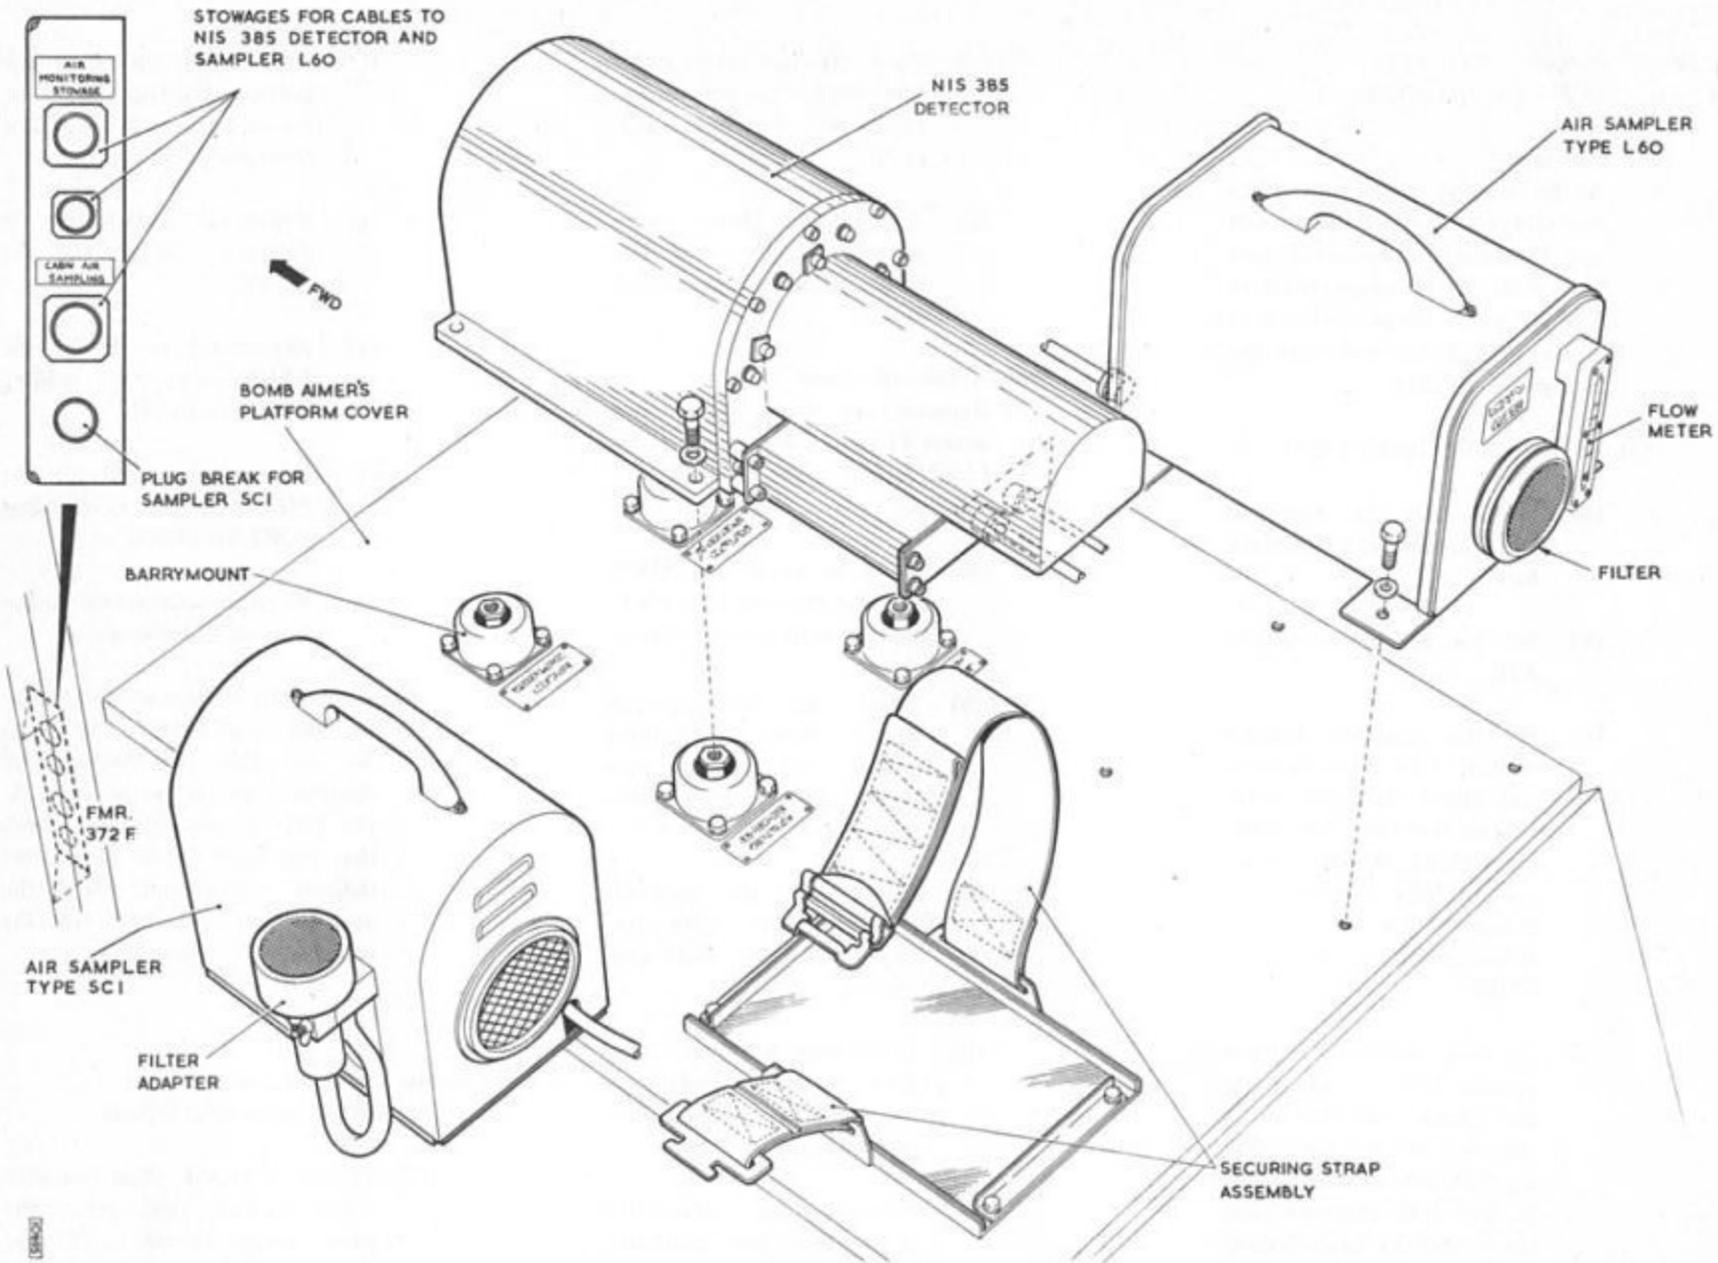

Fig. 4 Location of units at the bomb aimer's position
25. Dummy stowages are provided for the connectors of the A.E.O's control units, the DOWN detector and cabin air sampler L60 when these items are removed. The stowages are located behind the Nav/Plotter's panel (fig.3) and at former 372F (fig.4).